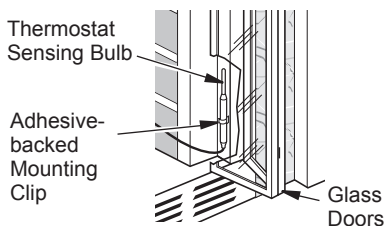

**Figure 33 - Removing Thermostat
2. With 1/4" hex driver or socket, loosen the thermostat screw. Carefully slide the thermostat sensing bulb out of the retaining clamp (see Figure 33).